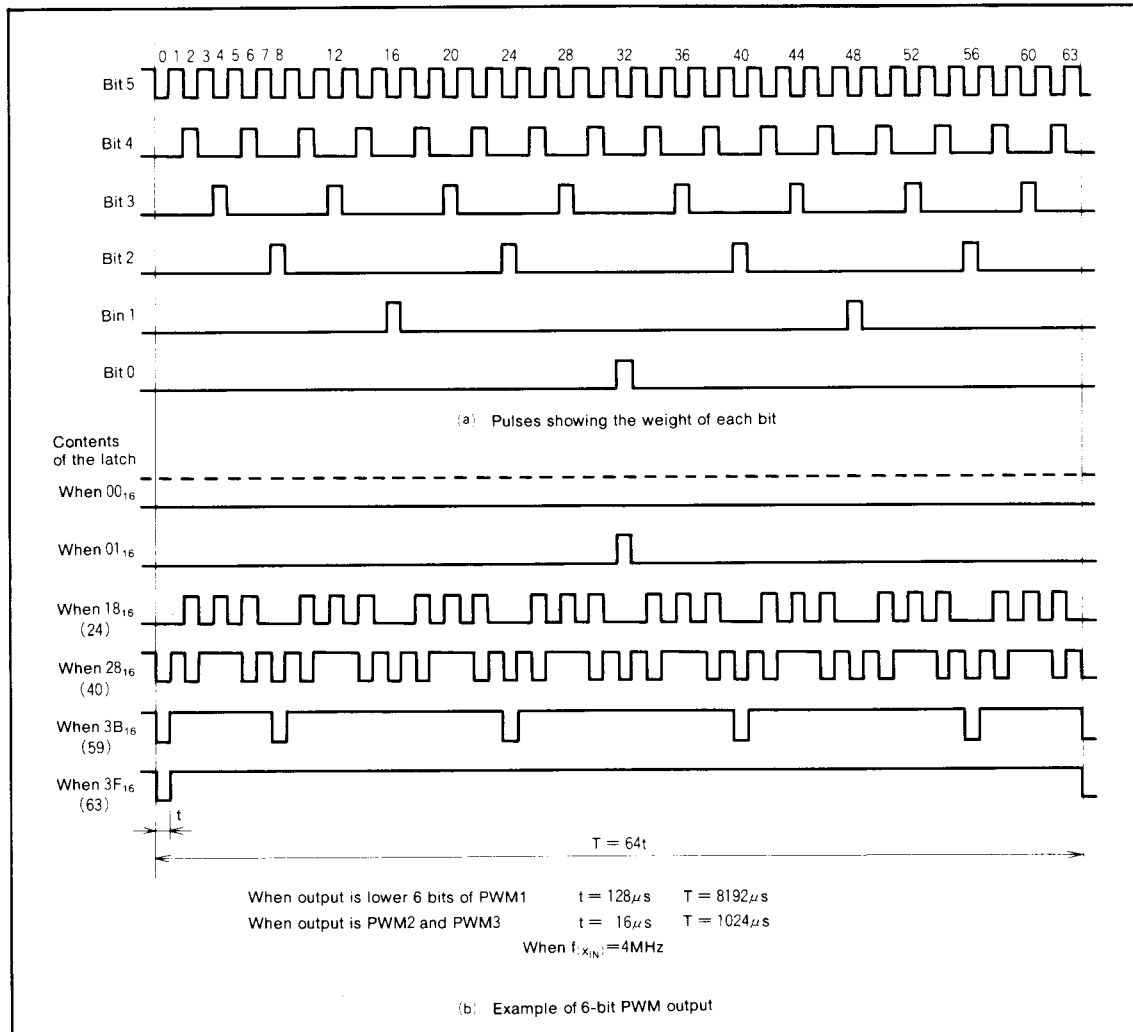

Fig.10 6-bit PWM timing diagram
(4) Operation of the 6-bit PWMs
The timing diagram of the two 6-bit PWMs (PWM2 and PWM3) is shown in Figure 10. One period (T) is composed of 64 (2^6) segments.
There are six different pulse types configured from bits 0~5 representing the significance of each bit. These are output within one period in the circuit internal section. Refer to Figure 10(a).
is selected. The PWM output is the difference of the sum of each of these pulses. Several examples are shown in Figure 10(b). Changes in the contents of the PWM latch allows the selection of 64 lengths of high-level area outputs varying from 0/64 to 63/64. An length of entirely high-level output cannot be output, i.e. 64/64.